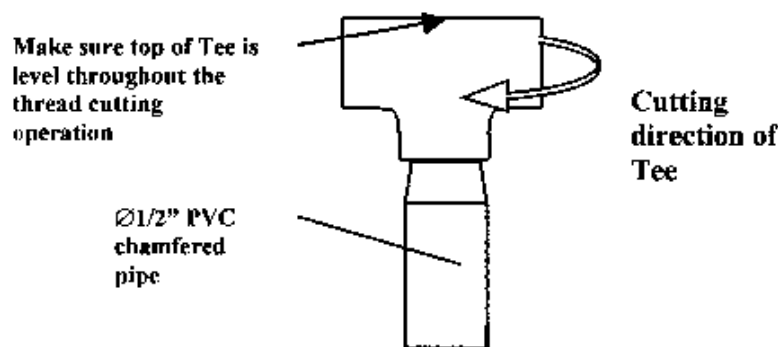

Figure 8 Starting the thread cutting
- Place the thread cutter on top of the pipe and gently start to turn/thread it on to the prepared pipe, making sure that the top of the GI fitting is level as shown in Figure 8.